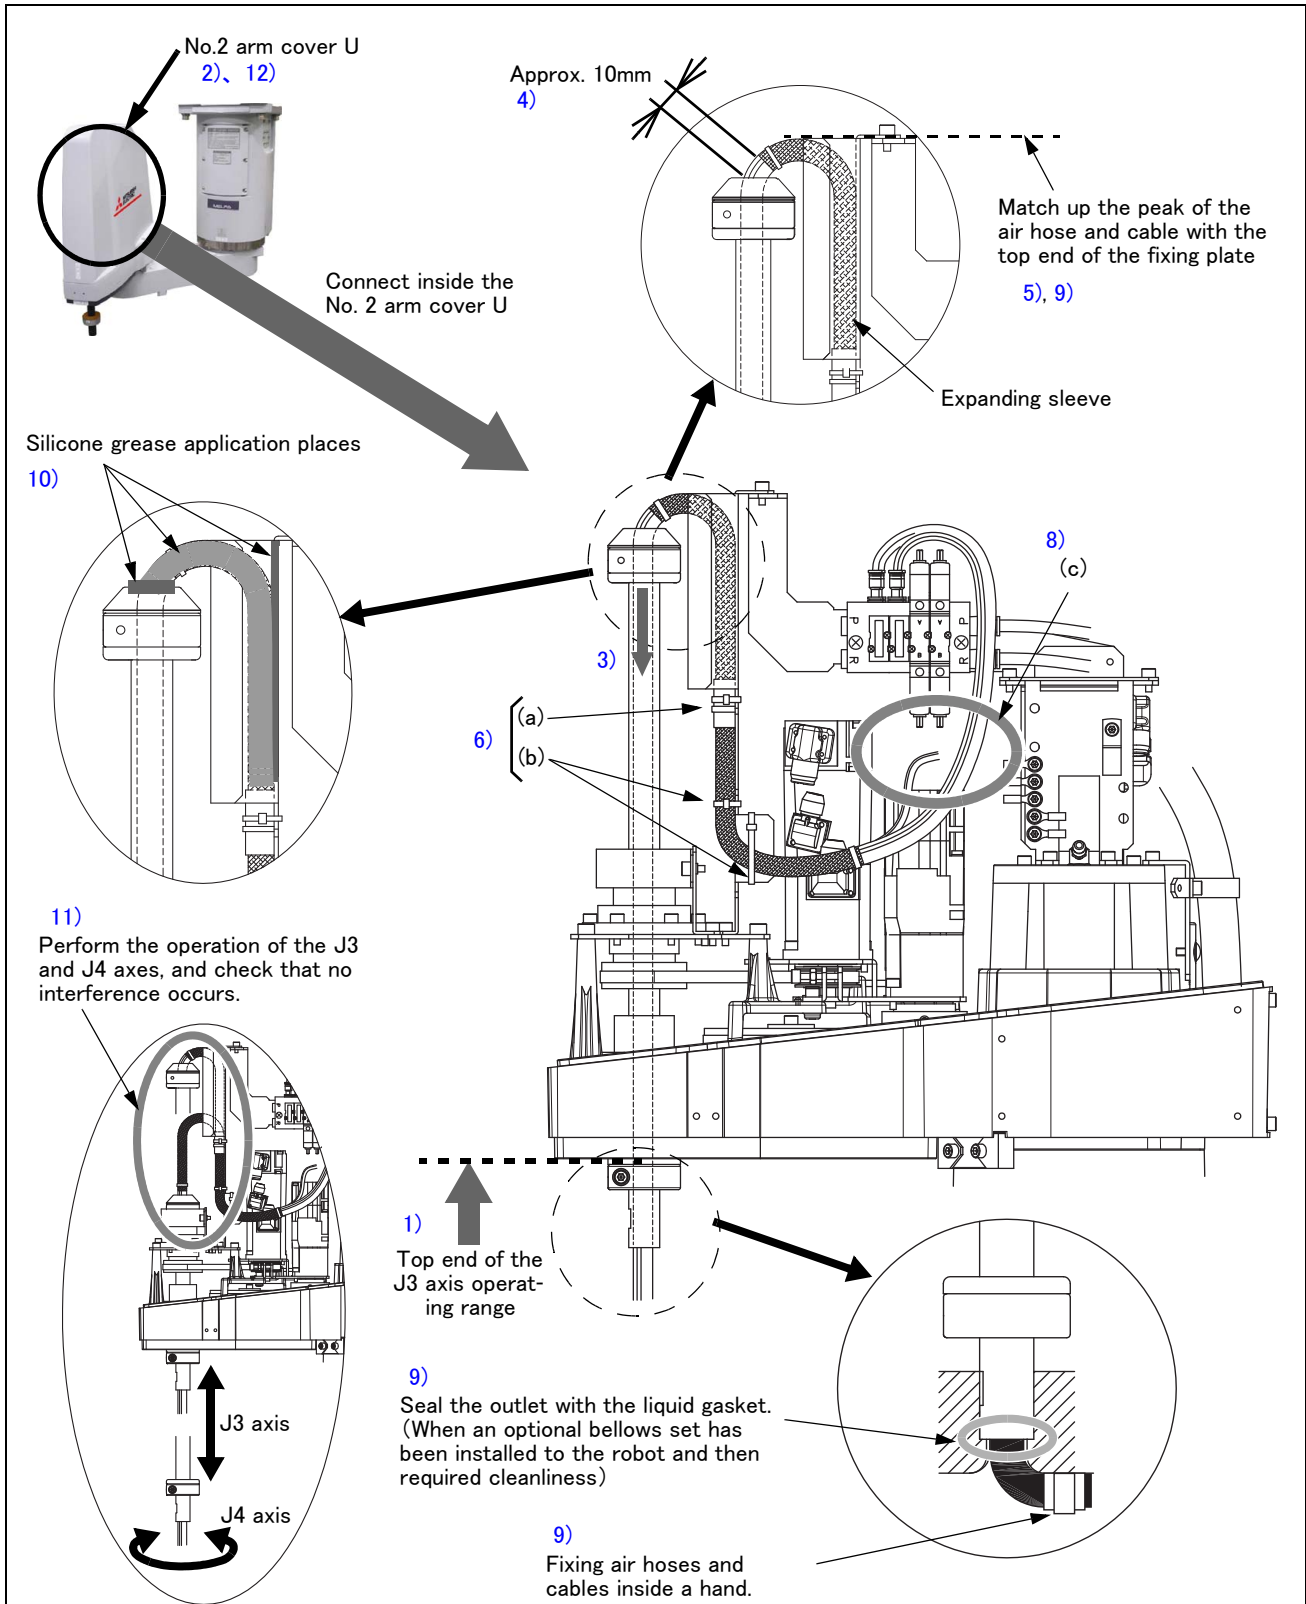

Fig.3-5 : Installing the hand internal wiring and piping set
Refer to the installation diagram shown from the next section, and perform the installation correctly. Installation diagram is shown in Fig. 3-5.
Refer to Page 51, "(1) Installation procedure" and install cables and air hoses correctly. The numbers in Fig. 3-5 are correspond to the same numbers in "(1)Installation procedure".